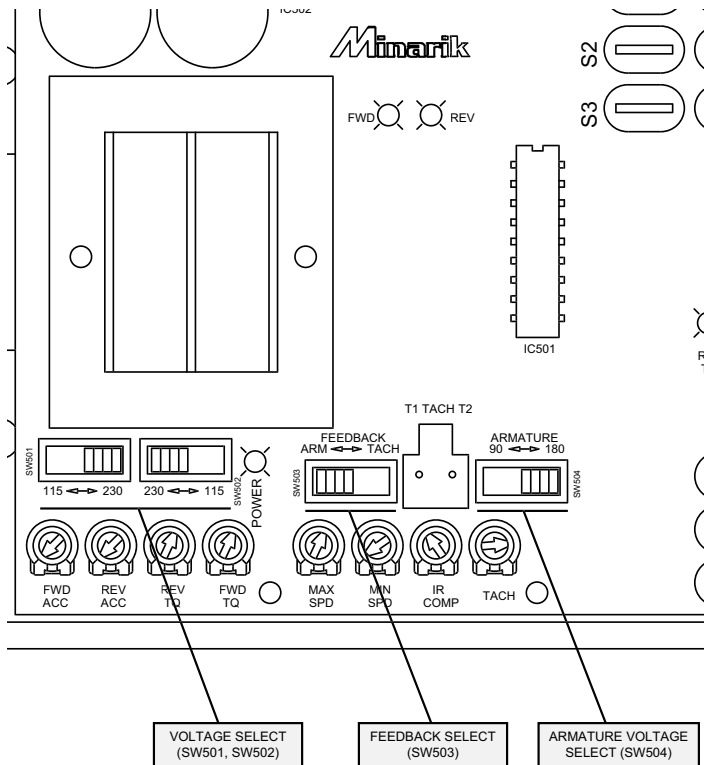
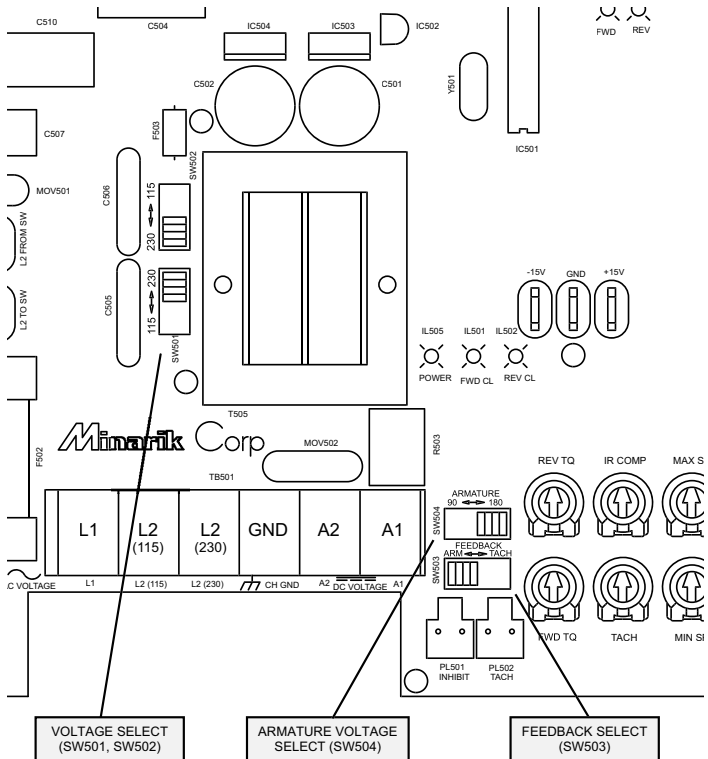

Figure 13. MMRGD Selector Switch Locations
Figure 14. C1RGD Selector Switch Locations
Figure 13, page 24 shows the location of the voltage, feedback and armature voltage selector switches on MMRGD series drives. Figure 14, page 25 shows the location of these switches on C1RGD series drives. Ensure that these switches are in the proper positions for your application prior to applying power.
- Check that the input power, armature voltage and feedback selector switches are set to the correct position. See Figures 13 and 14, pages 24 and 25 for selector switch locations.